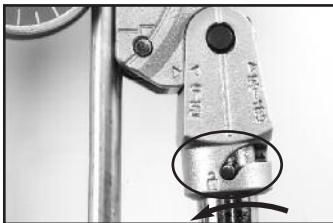

Figure 12 – UNLOCK
1. When the "0" Line on the Carriage reaches the 90° mark on the Form, turn the carriage handle so that the pin moves the "unlock" position (Figure 12).